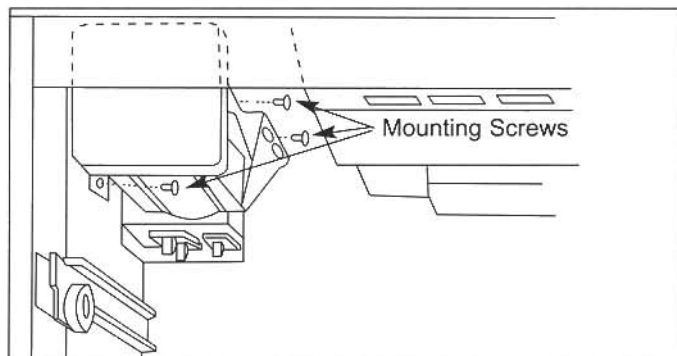

Figure 2-39. Models 511, 550 Icemaker
The ice maker is located in the upper left corner of the freezer compartment and secured to the side wall by two screws above the ice maker and one screw below it (Figure 2-39).
2. Then extract the two mounting screws at the top, above the icemaker mold (Figure 2-39).